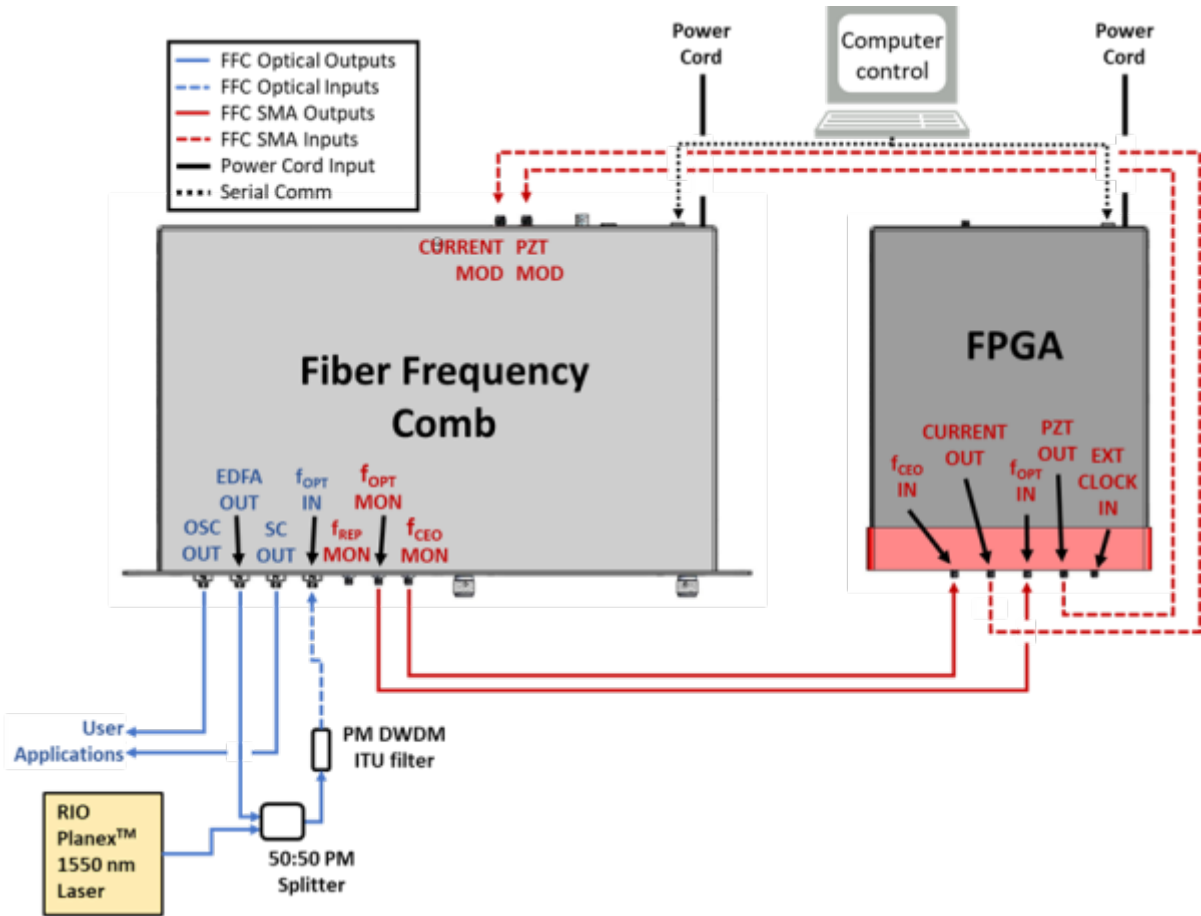

Fig. 2: FFC-100 electrical and optical connection diagram (Click for larger image)
2. Ensure all cables and fibers are connected according to the connection diagram figure 2.2)